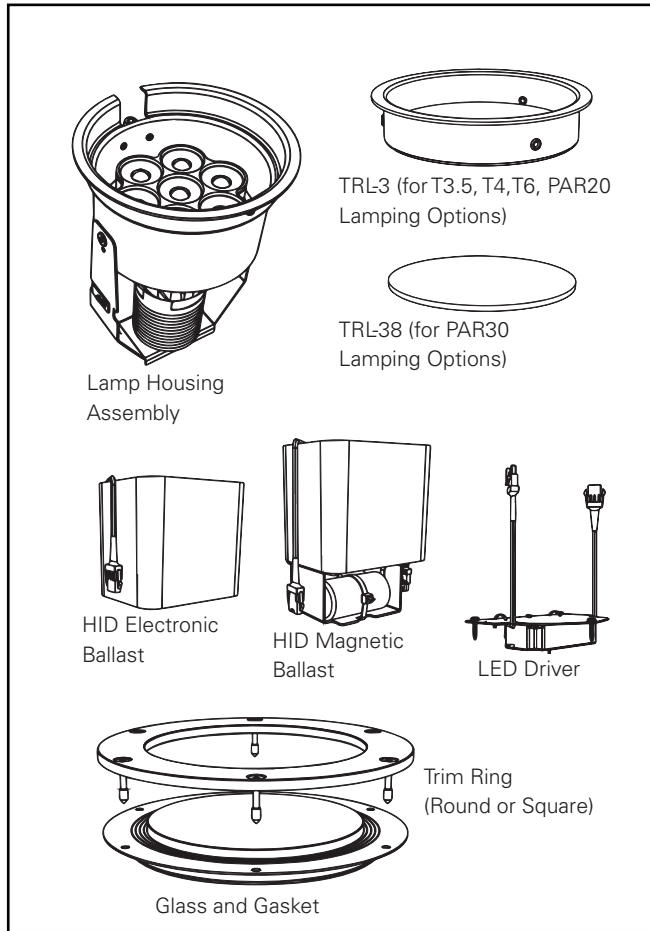

Figure 2.
3. Glass and gasket. (Figure 2.)